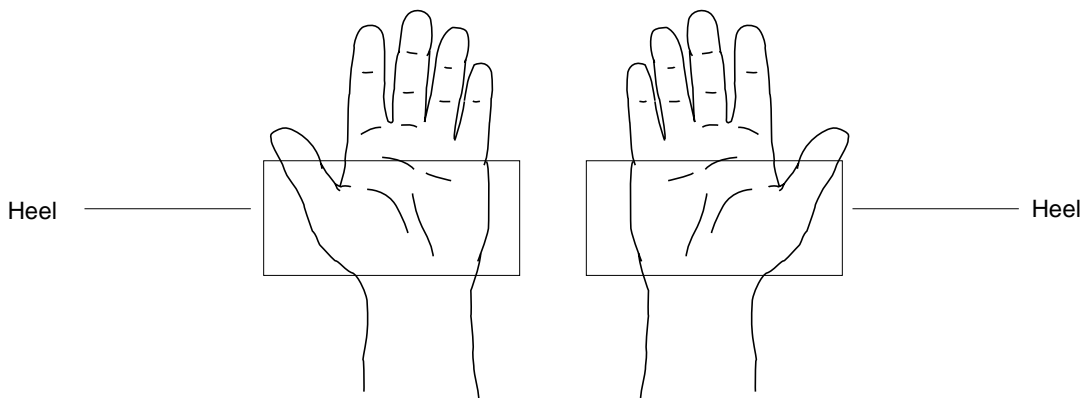
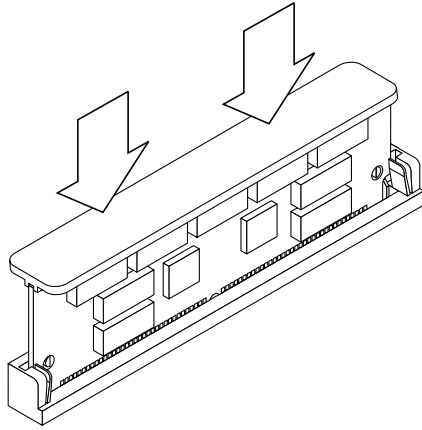

FIGURE 5-39 Heel of Each Hand
FIGURE 5-40 Using the Insertion Tool
- See FIGURE 5-39 and FIGURE 5-40.